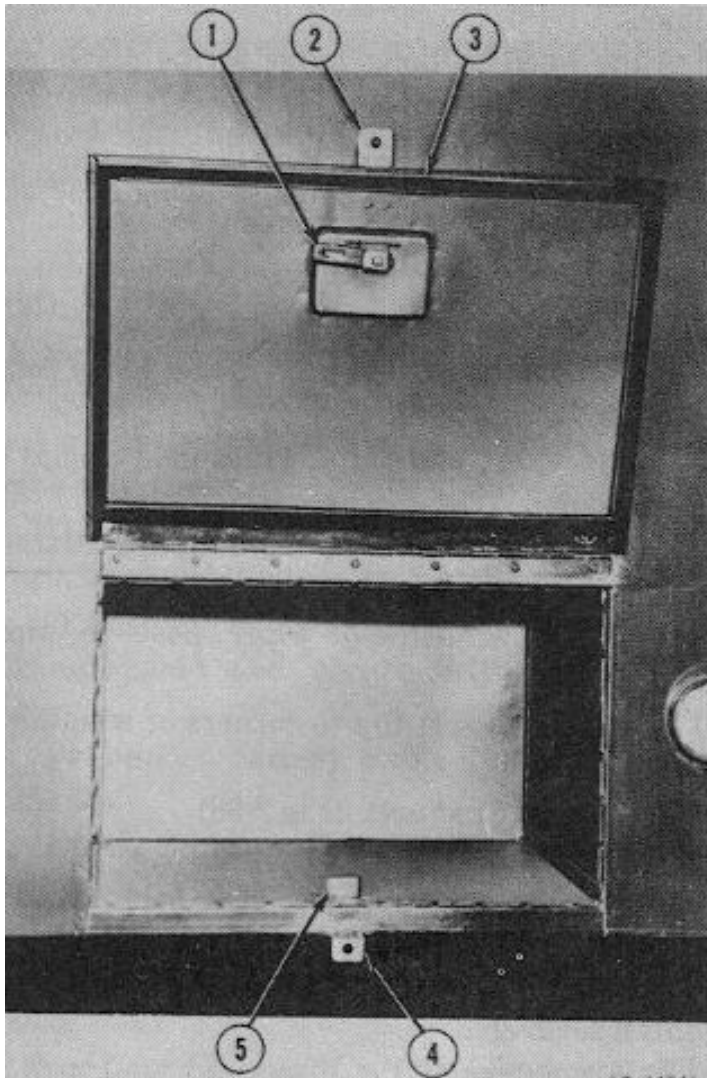
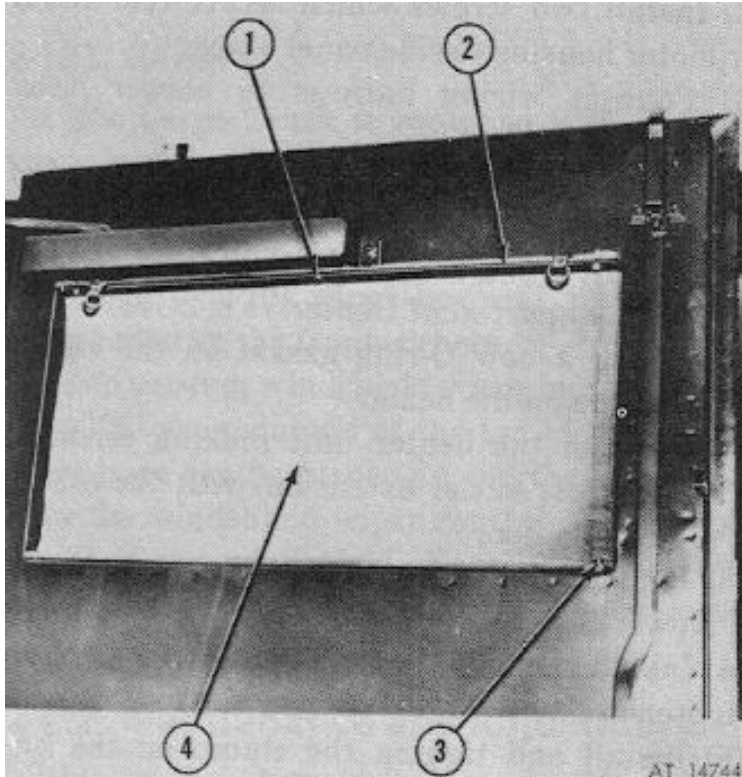
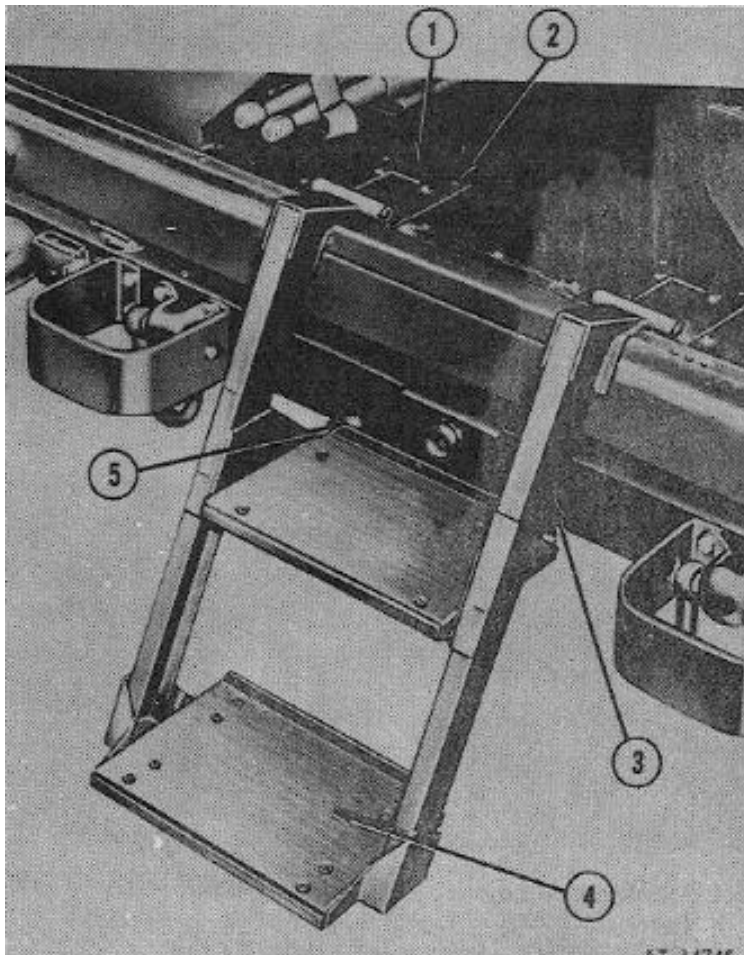

Figure 2-102. Outside stowage compartment.
FIGURE 2-103. Rear door blackout curtain.
Figure 2-104. Rear step assembly.
L Outside Stowage Compartment Handle. (Fig 2-102)
- (1) Loosen the set screw on the U-shaped latch and remove from the square shaft.
- (2) Remove the handle from the front of the door.
j. Rear Door Blackout Curtain (Ambulance). (Fig 2-103)
- (1) Unfasten the two straps that hold the curtain in the rolled up position, lowering the curtain.
- (2) Remove four screws holding the curtain retainer strip in place. Remove curtain.
l. Ambulance Rear Step and Seat. (Fig 2-104) After opening the rear doors the telescoping steps can be swung down into position at the center of the body, allowing easy access into the patient compartment. When folded up with the doors closed, the bottom side of the telescoping step doubles as a cushioned attendant seat. Should a rear step become damaged or destroyed, it can be replaced by removing the four bolts at each of the two mounting hinges on the floor of the patient compartment.
- (1) Position heater switch, thermostat and circuit breakers in control panel and install attaching screws and washers.
- (2) Connect wiring harness cable connectors to switch, thermostat and circuit breakers.
- (3) Position control panel to ambulance body bulkhead panel and secure with eight attaching screws.
- (4) Connect battery cable to battery negative terminal.
i. Outside Stowage Compartment Handle. (Fig 2-102)
- (1) Install handle onto square shaft.
- (2) Install set screw on the U-shaped latch and tighten.
- (1) Position curtain on rear door.
- (2) Install retaining strip and secure with screws.
- (3) Roll curtain up and fasten with two retaining straps.
l. Ambulance Rear Step and Seat. (Fig 2-104)
- (1) Position and aline rear step and seat hinges to holes in the floor patient compartment.
- (2) Install eight bolts and secure the two hinges to the floor of the patient compartment. Tighten bolts securely.